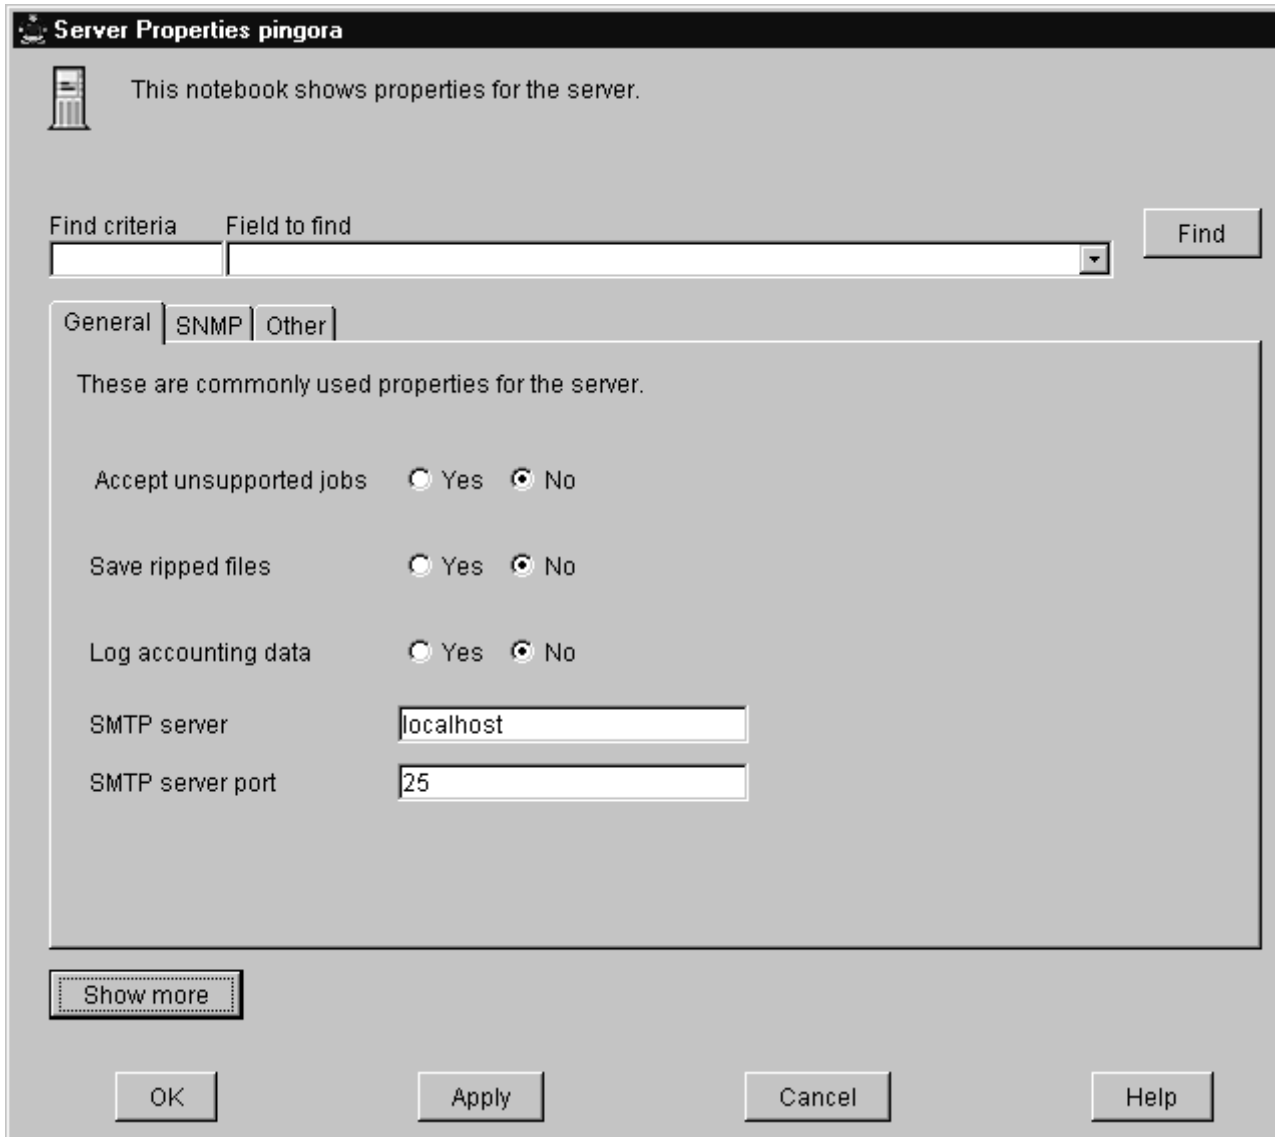

Figure 19. Server properties dialog for setting the mail server
3. From the **Server Properties** dialog (Figure 19 on page 64), specify your installation's mail server in the **SMTP server** field and the port in the **SMTP port** field.
Note: Note that the **SMTP server port** field defaults to 25, which is the default port for the SMTP server on most AIX servers. Figure 19 on page 64 displays the default values for this panel.